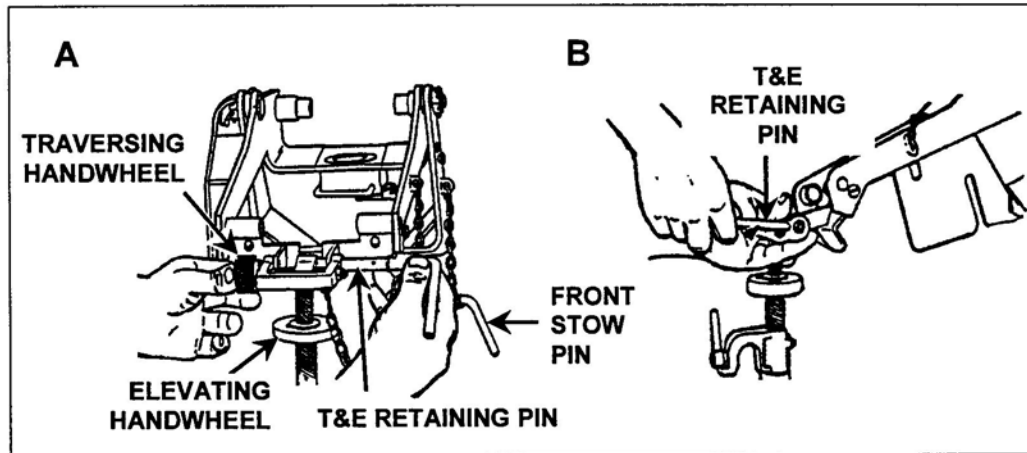

Figure 7. Attachment of T&amp;E assembly to gun mount.
4. Attach the T&E assembly to the gun mount (Figure 7).